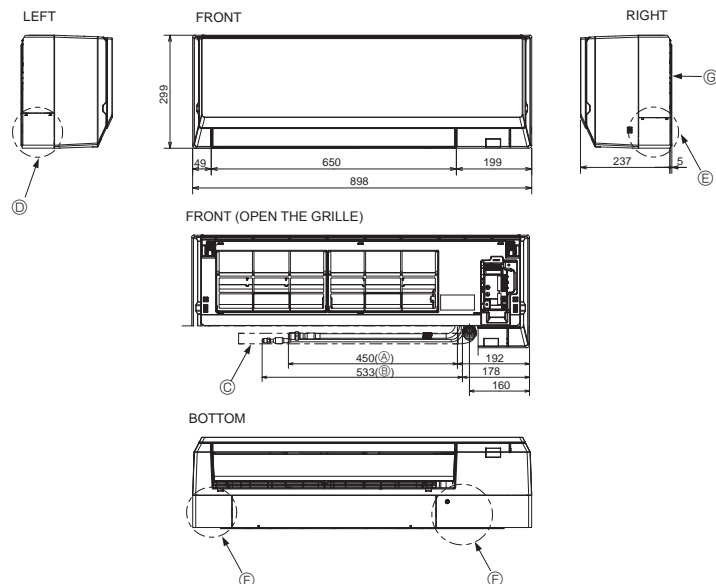

Fig. 4-3
4.3. Positioning refrigerant and drain piping (Fig. 4-3)